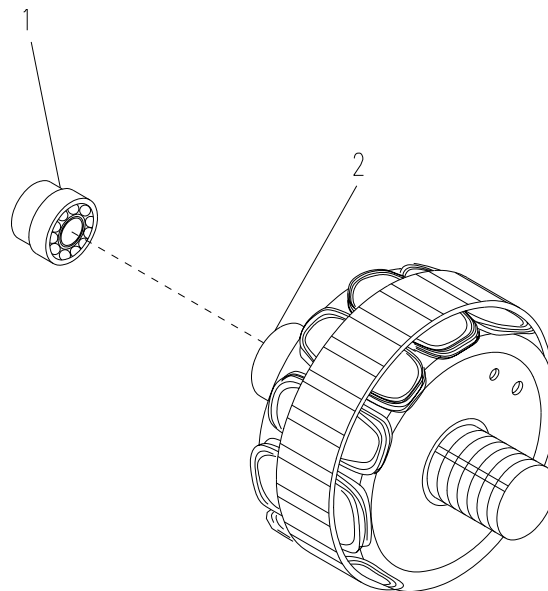

Figure 6-33. Generator Bearing
- a. Use a two pronged puller to carefully remove bearing (1, Figure 6-33) from shaft (2).
- b. Apply grease to shaft (2).
- c. Install bearing (1). Tap lightly with a rubber mallet if necessary. Wipe off excess grease.